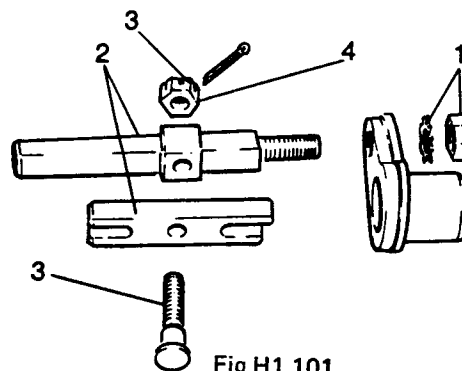

Fig H1.101
(3) Refer to Fig H1.101. Remove the nut and washer (1) that retains the pivot assembly coupling, and remove the latter.
(4) Remove the rocker and pivot assembly shaft (2) removing the split pin (4), castle nut and bolt (3).